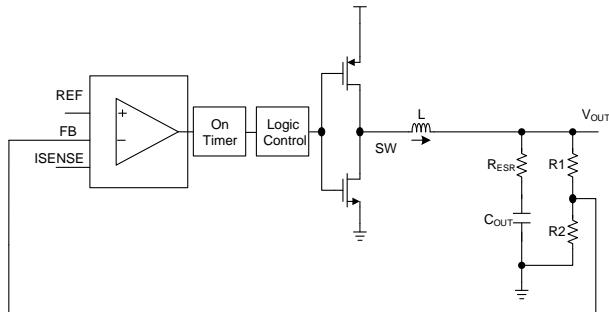

Figure 2: Simplified Control Block
The device uses constant-on-time (COT) control to provide fast transient response and easy loop stabilization. Figure 2 shows the MPM3612's simplified ramp compensation block. At the beginning of each cycle, the high-side MOSFET (HS-FET) turns on once the ISENSE ramp ( $V_{ISENSE}$ ) falls below the error amplifier (EA) output voltage ( $V_{EA0}$ ), which indicates an insufficient output voltage ( $V_{OUT}$ ).